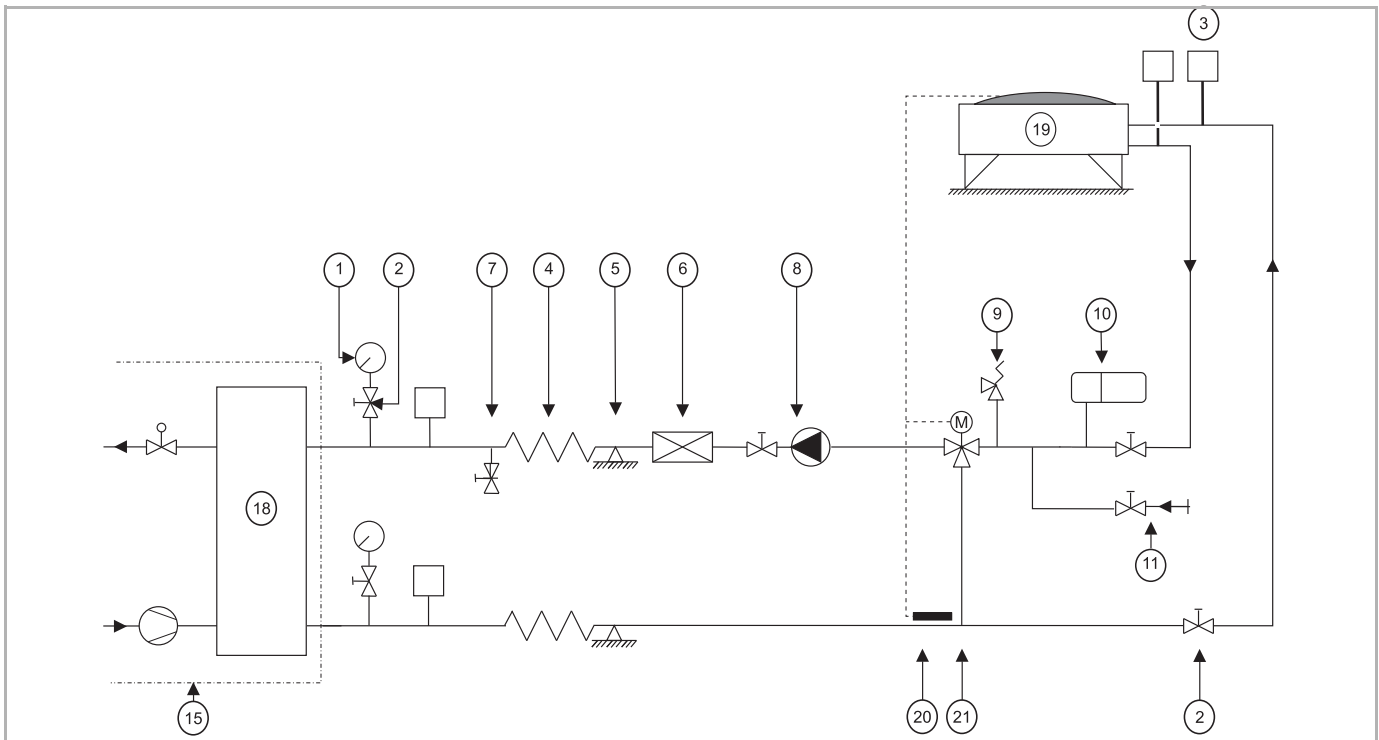

Fig. 16: Heat rejection circuit with a 3-way valve and/or fan speed control of the heat rejection unit
*Possibility 3:* – Option 3 can also be used in order to provide for the minimum cool water outlet temperature of the unit. In this case a 3-way valve is installed in cooling water inlet additionally to the fan speed control to provide valve regulation depending on the cooling water outlet temperature (refer to Fig. 16 on page 54).